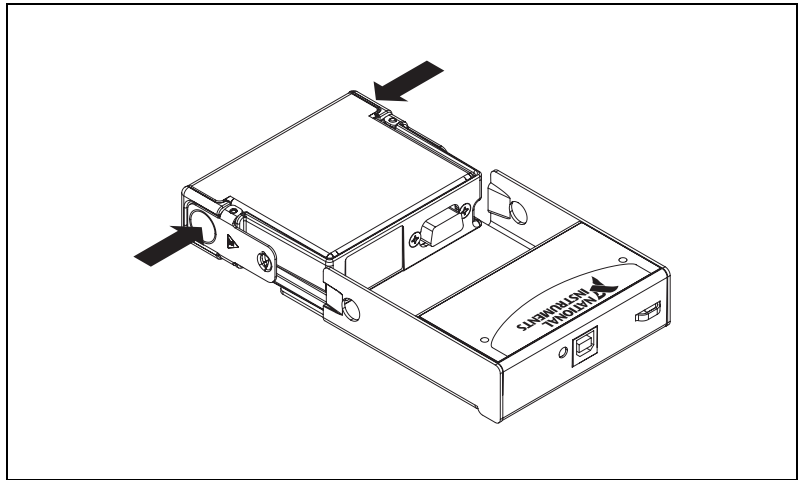

Figure 3. Module Installation
The NI 9237 module and USB-9162 carrier are packaged separately. Refer to Figure 3, while completing the following assembly steps:
3. Align the I/O module with the carrier, as shown in Figure 3.